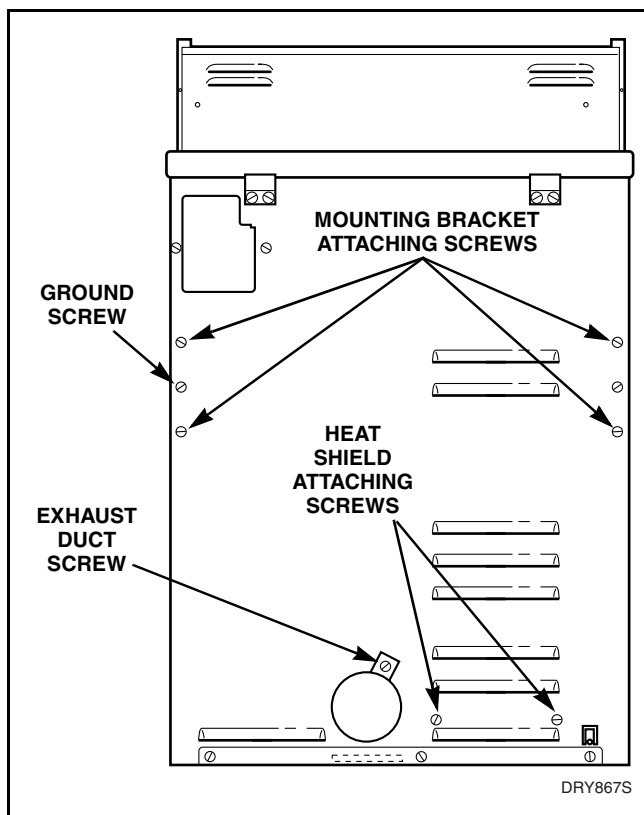

Figure 36
- f. Remove screws holding heat shield to rear of dryer cabinet. Refer to *Figure 36*.
- b. Remove screws holding rear mounting brackets to rear of cabinet. Refer to *Figure 36*.